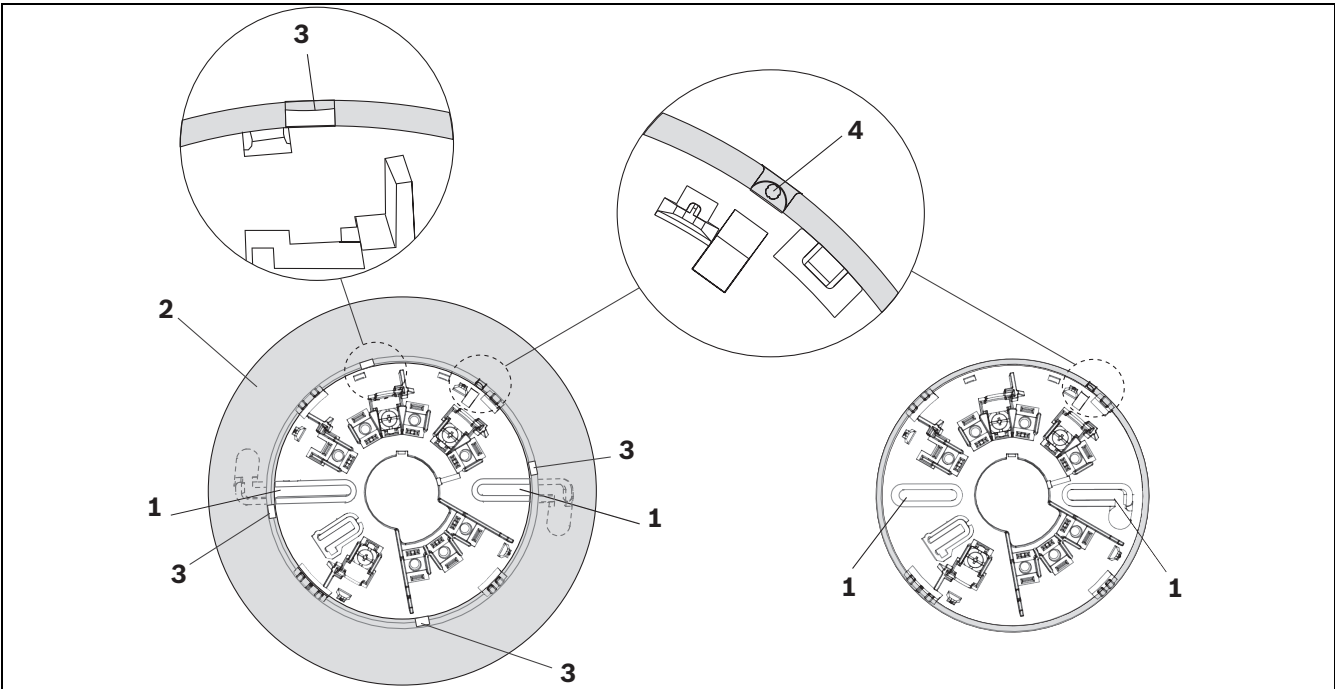

Figure 4.1 6-inch and 4-inch Mounting Bases
1. Mount the base using the two oblong mounting holes (see *Figure 4.1*, Position 1).
Holding a magnet at the test point centered over the semicircle notch on the head (see *Figure 4.1, Page 10, Position 4*) will cause the LED to flash red. If the magnet is held at the indicated location for more than 6 seconds, the unit will send an alarm signal to the panel and the LED will change to steady red until the unit is reset by the panel. If the magnet is removed before the period of 6 seconds is over, the unit will return to the state it was in and no alarm signals will be sent. Otherwise, you have to reset the unit.